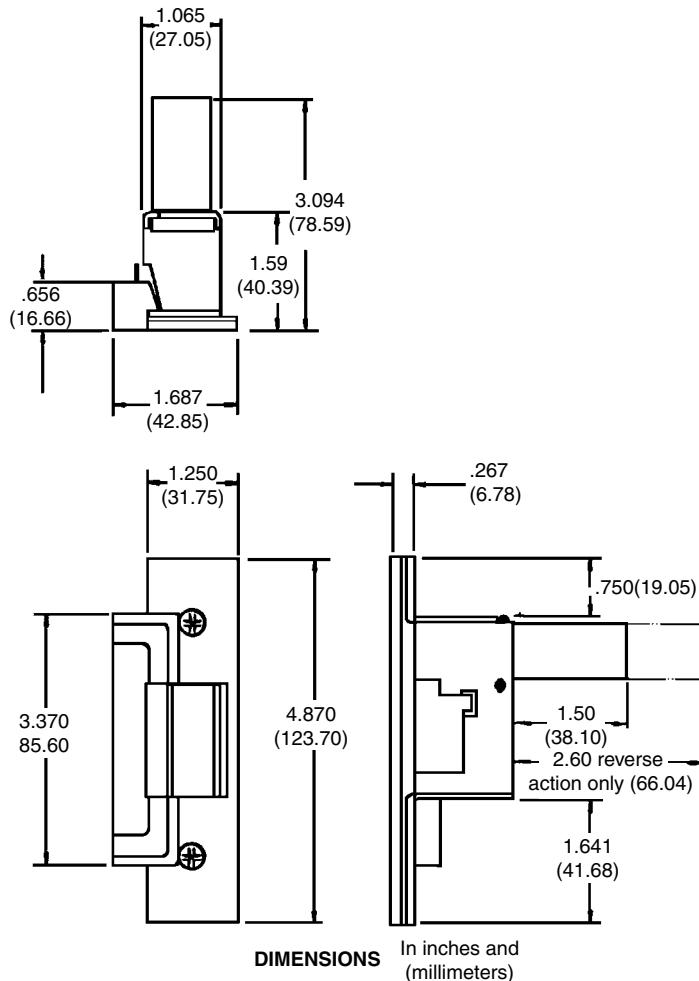

Figure 19.7 Strike unit dimensions for wood door jamb installations.
5. Figure 19.7 provides the technical dimensions of the strike unit to be installed.